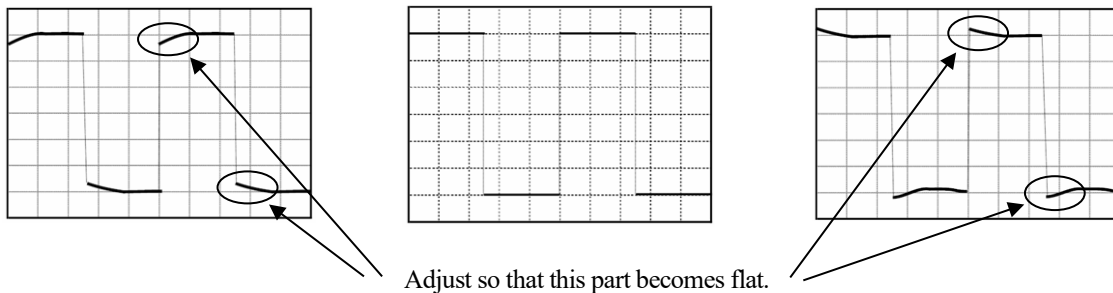
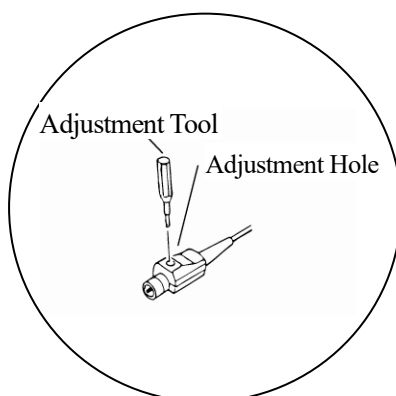

Figure 1.63 (a) Insufficient compensation
Figure 1.64 Waveform adjustment
4. While looking at the displayed square wave (Figure 1.63 (a), (b)), insert the attached adjustment driver into the waveform adjustment hole of the probe and turn it (see Figure 1.64), and adjust the square wave into the ideal waveform (Figure 1.63) as close as possible to (c).